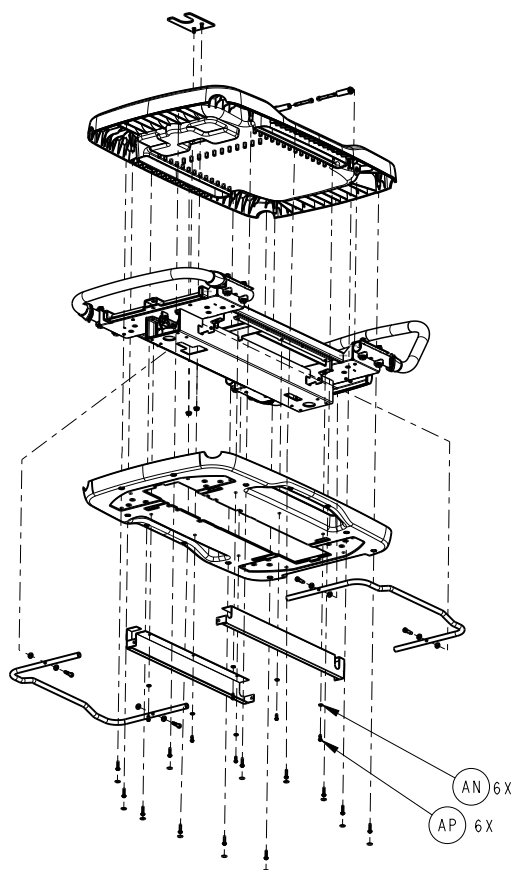

Figure 9 – Valance brackets
4. Using a T15 Torx driver, remove the six screws (AP) and washers (AN) that secure the valance brackets to the cover (Figure 9). Save the screws and washers.